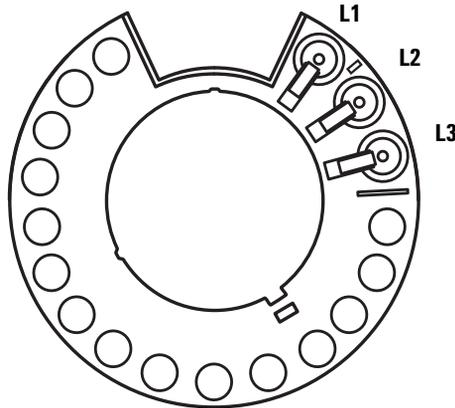

Figure 108 Transfer turret positions L1, L2, L3 (top view)
- 2 Remove any vials from transfer turret positions L1, L2, and L3 in both towers (Figure 108).